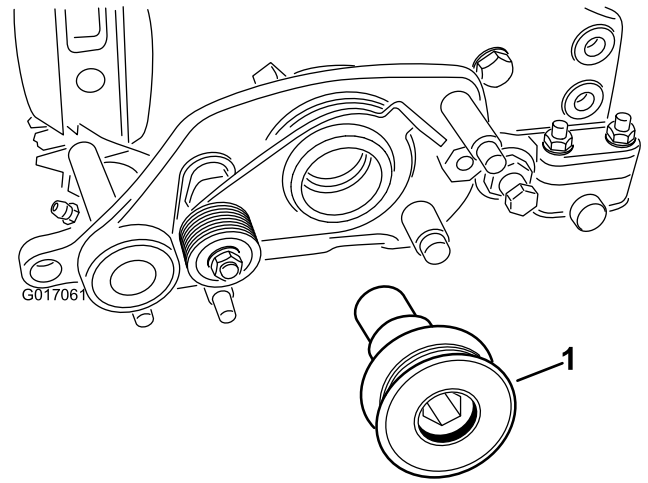

Figure 8
19. Secure the groomer drive pulley to the reel shaft (Figure 8). Torque to 170 N-m (125 ft-lb).